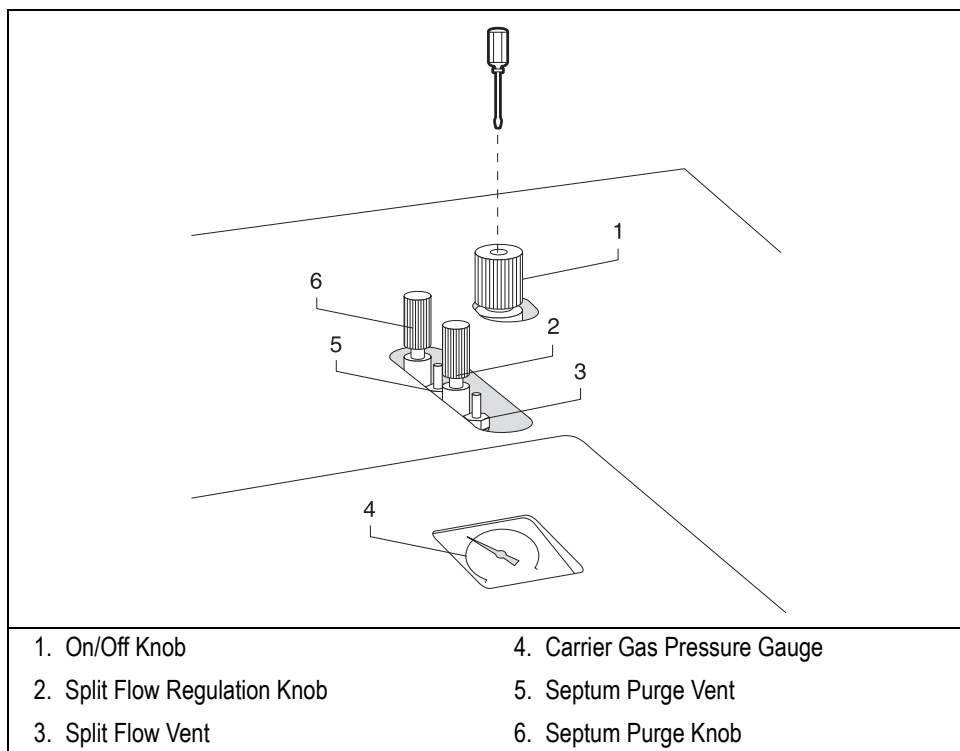

Figure 5-4. Non-DPFC Gases Regulation
This operating sequence contains the instructions to regulate the carrier gas pressure, the split and septum purge gas flows and the gas flow for packed column. Refer to Figure 5-4.
1. Attach a bubble flowmeter to the split flow vent (see Figure 5-4).
1. Attach a bubble flowmeter to the septum purge vent (see Figure 5-4).